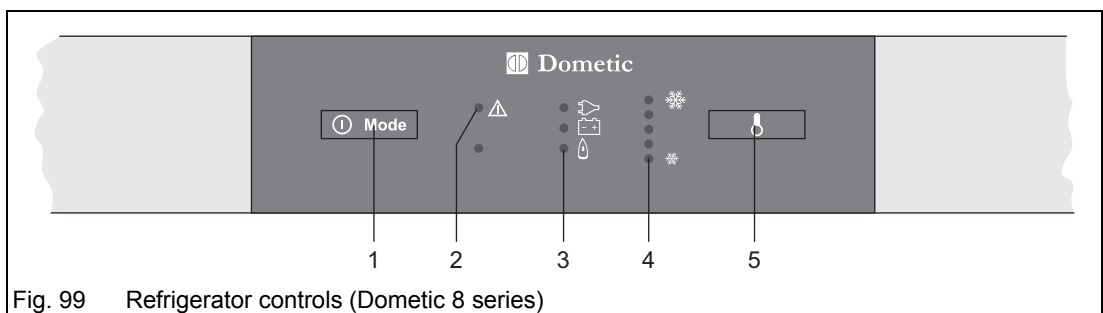
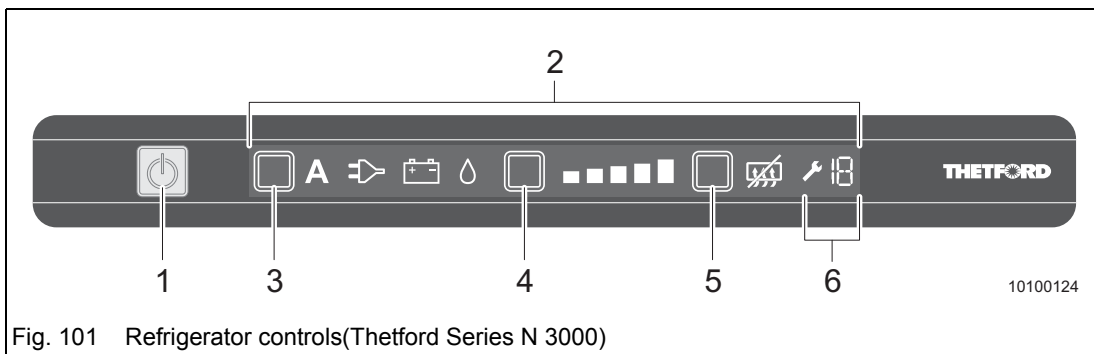

Fig. 99 Refrigerator controls (Dometic 8 series)
Fig. 101 Refrigerator controls (Thetford Series N 3000)
- On refrigerators with manual power selection (MES), press the power selector switch (Fig. 99/1) resp. (Fig. 101/2) so often until "Gas mode" is selected. Ignition is then automatic.